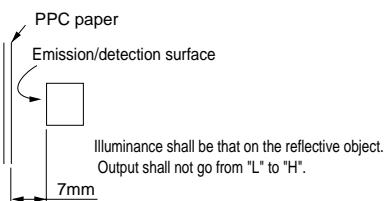

Fig. 1 Low Level Output Current vs. Ambient Temperature
*1 Output current vs. ambient temperature : Per Fig. 1.